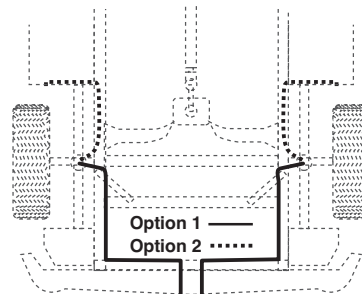

Fig. 7
- Select a location for the inflation valve in the gas cap well, the trunk, rear bumper, fender flange or behind license plate, insuring that the valve will be protected and accessible with an air hose (Fig. 7).